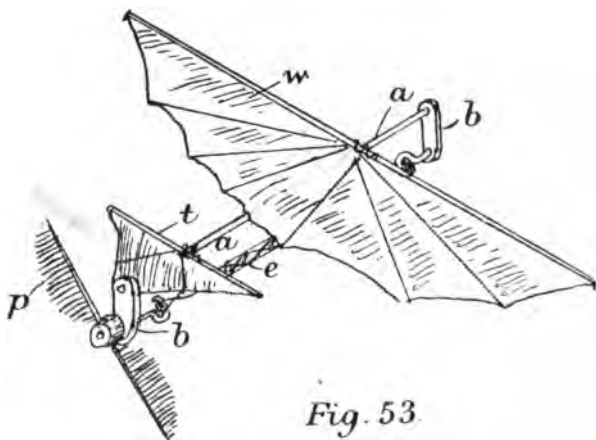

Fig. 53.
M. Pinaud carried out many experiments in motive aëroplanes, one of which, a toy, is a modification of Sir George Cayley's device shown by Fig. 53. An aëroplane *w* and *tail vane* *t* are attached to a frame *a*, between the ends *b, b'* of which is stretched a twisted rubber band *e*, which, when wound up in tension, rotates a propeller *p*, affording a sustained oblique flight.